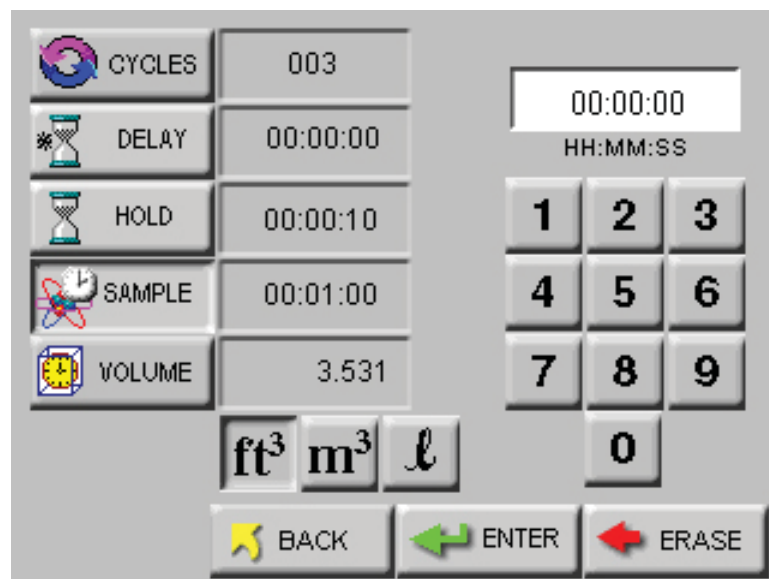

Figure 6-96 Reports Sample Screen
- Press the SAMPLE button to configure the number of Cycles, Delay time, Hold time, Sample time and Volume. See Figure 6-96.